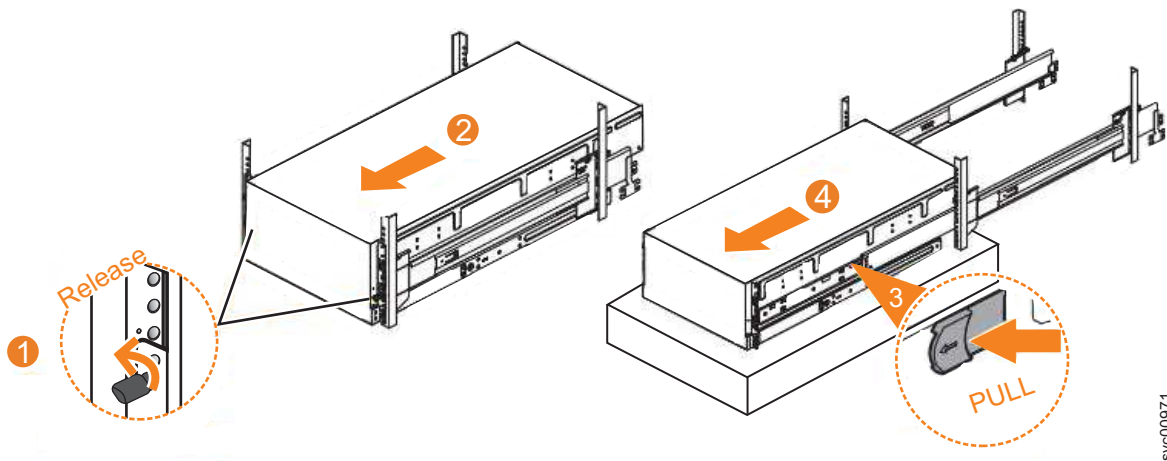

Figure 87. Removing the 2076-92F enclosure from the rack
1. Loosen the locking thumb screws (**1**) on the front of the enclosure, as shown in Figure 87.
2. Carefully slide the enclosure forward out of the rack (**2**), as shown in Figure 87.
3. Locate the left and right blue release tabs near the front of the enclosure. Pull both release tabs forward to unlock the drawer mechanism (**3** in Figure 87).
4. Slide the enclosure and inner rail member out of the rack (**4** in Figure 87).